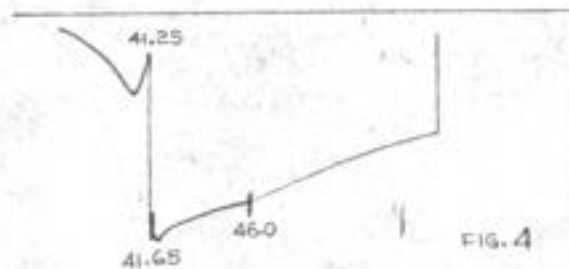

FIG. 4
- f. Tune mixer plate coil (tuner) and T201 (bottom) to obtain curve shown in Figure 4.